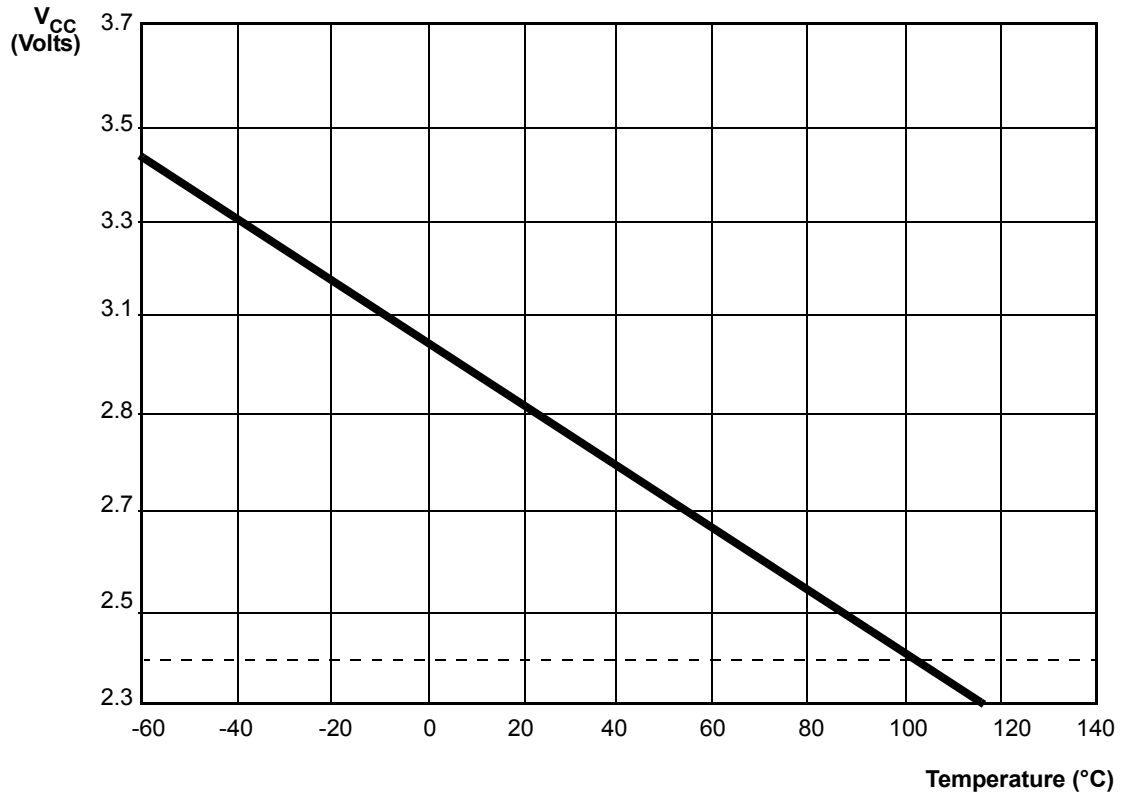

Figure 35. Typical  $V_{LV}$  Voltage vs. Temperature
**Auto Reset Voltage.** An on-board Voltage Comparator checks that  $V_{CC}$  is at the required level to ensure correct operation of the device. Reset is globally driven if  $V_{CC}$  is below  $V_{LV}$  (Figure 35).